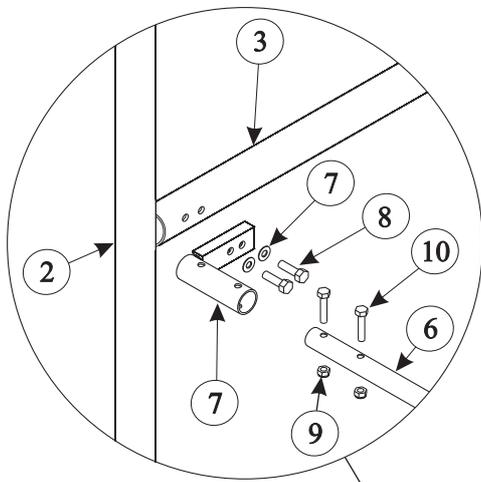
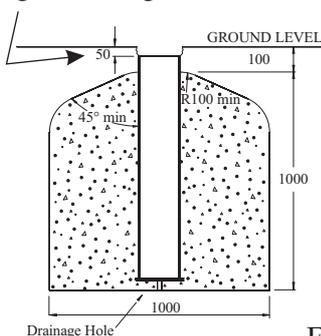

Fig.1
Fig.2
**1** Concrete the sockets (5) in place at centres given in Fig 4. Place the socket top 50mm below ground level, and finish the concrete 100mm below ground level to allow for soil and turf, as shown in Fig 2. Use the diagram below for correct socket placement. Use spirit level to make sure that the sockets are truly vertical and support until set. Allow concrete to cure fully before assembling the rest of your goal.
**2** Lay the Uprights (1,2) on the ground in front of the sockets, making sure that the spigots are facing inwards and the bolt holes for the Crossbar (3) are facing up. This will ensure the correct uprights are in position.
**4** Position two step ladders beside each Upright. Lift the Crossbar (3) together and slide onto each spigot. Now secure the Crossbar to the Uprights by bolting through the Net Support Brackets (6) as shown in Fig.1 Ensure washers (7) are placed between the bolts (8) and the Net Support Bracket (6).
**5** Once the goals are erected, insert Net Support Tube (4) into its bracket. Before attaching, mark the ground where the Net Support Tube rests. A small hole needs to be created at this marked point in order for the Net Support Tube to be inserted. This hole needs to be 270mm deep, angled into the ground at around 7.5 degrees. Shown in Fig. 5. Once hole is created place Net Support Tube into the hole and attach to bracket using bolts (10) and nut (9) as shown in Fig.1. Use the net support to ensure that the goal posts are in the vertical position.